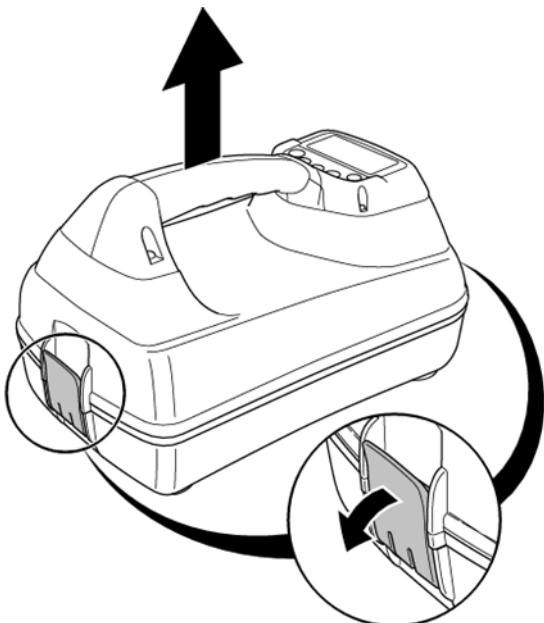

**Figure 4.7 Connecting the Li Ion lead**
- 2 If using a Li-Ion battery pack un-plug the lead connector (see figure 4.7)
If using the Li-ion battery pack, plug the lead into the battery connector (fig 4.7).